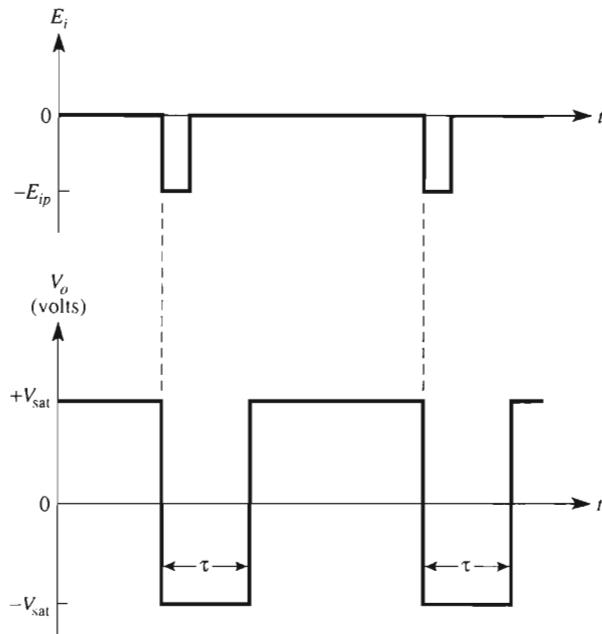

FIGURE 6-3 Input signal E_i and output pulse of a one-shot multivibrator.
A *one-shot multivibrator* generates a single output pulse in response to an input signal. The length of the output pulse depends only on external components (resistors and capacitors) connected to the op amp. As shown in Fig. 6-3, the one-shot generates a single output pulse on the negative-going edge of E_i . The duration of the input pulse can be longer or shorter than the expected output pulse. The duration of the output pulse is represented by τ in Fig. 6-3. Since τ can be changed only by changing resistors or capacitors, the one-shot can be considered a *pulse stretcher*. This is because the width of the pulse can be longer than the input pulse. Moreover, the one-shot introduces an idea of an adjustable delay, that is, the delay between the time when E_i goes negative and the time for V_o to go positive again. Operation of the one-shot will be studied in three parts: (1) the stable state, (2) transition to the timing state, and (3) the timing state.